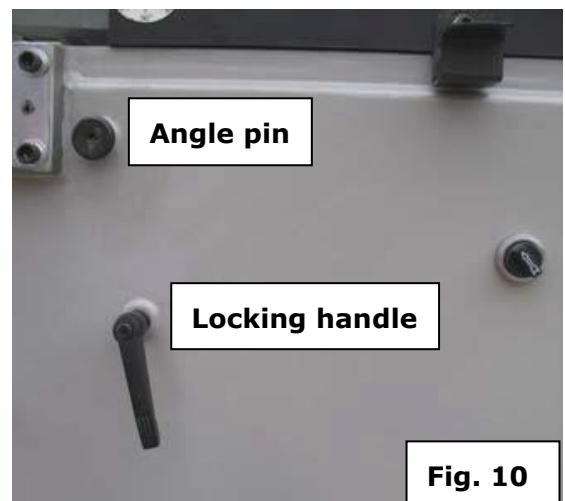

Fig. 10
- Loosen the locking handle (rotate counterclockwise) on the left side of the machine frame. See Fig. 10.